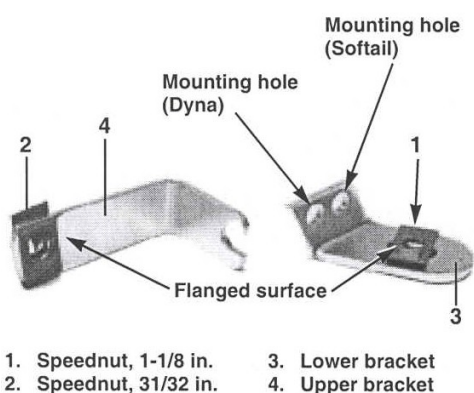

Figure 1
1. See Figure 1. Locate speed nuts and upper (4) and lower (3) mounting brackets. Install speed nuts on brackets, as shown. The 1-1/8 in. speed nut (1) fits lower bracket (3), the 31/32 in. speed nut (2) fits upper bracket (4).
2. See Service Parts Illustration. Locate socket screw, and 1/16 in. washer (2), 1/2 in. OD spacer (4) and lower mounting bracket (8) included with kit. Place washer on screw. Insert screw through lower hole in lower bracket for Dyna models as shown in Figure 1. Place spacer over end of screw. Set assembly aside for later installation.
2. See Service Parts Illustration. Locate socket screw, and 1/16 in. washer (2), 1/2 in. OD spacer (4) and lower mounting bracket (8) included with kit. Place washer on screw. Insert screw through upper hole in lower bracket for ST models as shown in Figure 1. Place spacer over end of screw. Set assembly aside for later installation.